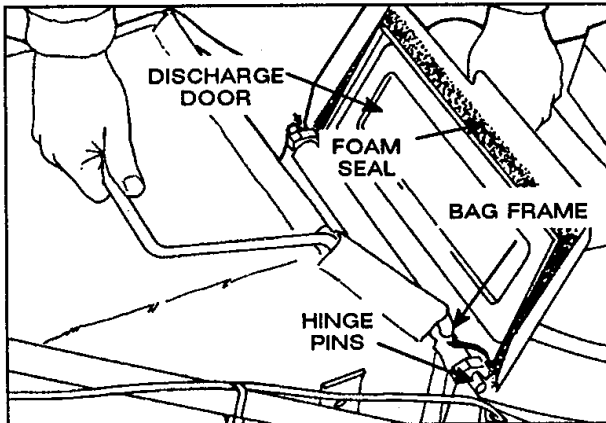

Figure 11
2. **INSTALLING BAG**—Raise discharge door and hook bag frame onto hinge pins (Fig. 11). Allow bag to rest on mower housing over discharge opening. Close door and make sure it seals around top of bag opening.